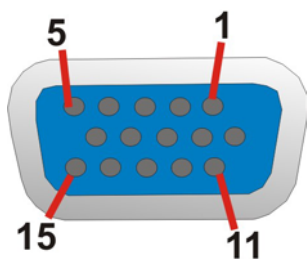

Figure 3-28: VGA1 Connector
**CN Pinouts:** See **Figure 3-28** and **Table 3-30**